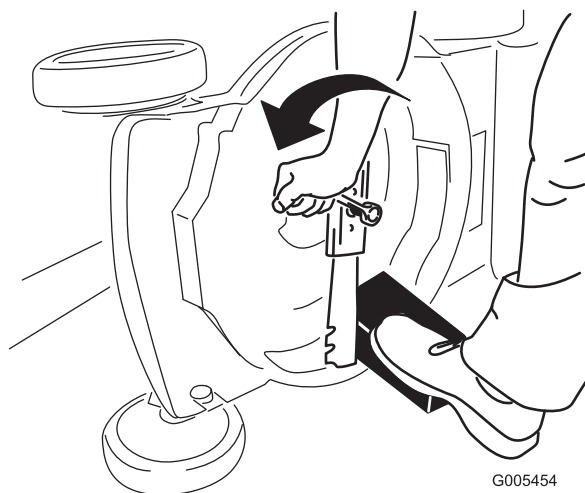

Figure 38
3. Use a block of wood to hold the blade steady (Figure 38).
4. Remove the blade, saving all mounting hardware (Figure 38).